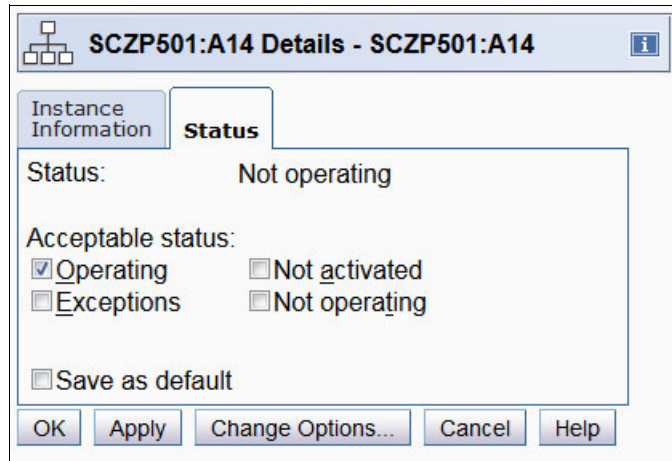

Figure 11-18 The HMC: Details after you activate a new logical partition
3. Verify that the activation task completed successfully. The status changes from Not activated to Not operating in the detail information of the target logical partition (Figure 11-18).